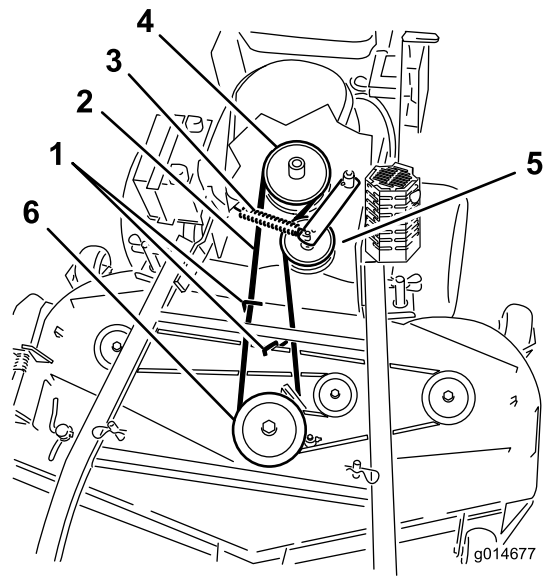

Figure 50
6. Roll the belt off of the center pulley on the mower deck (Figure 50).
7. Remove the belt from the engine pulley and the spring-loaded idler pulley (Figure 50).
8. Install the new belt onto the engine pulley and the spring-loaded idler pulley (Figure 50).
9. Roll the belt onto the center pulley on the mower deck (Figure 50).
11. Adjust the belt guide 3 mm (1/8 inch) from the belt (Figure 50).